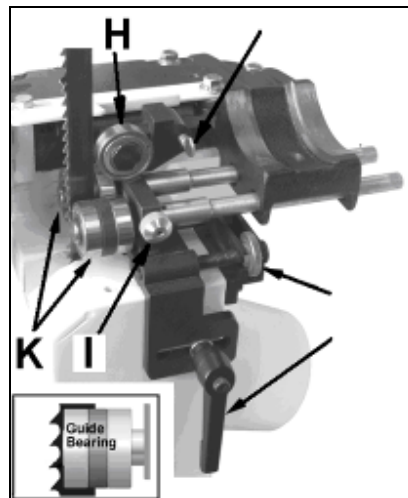

Fig 15
The locking screw (I, Fig 15) clamps both guide rollers (K).